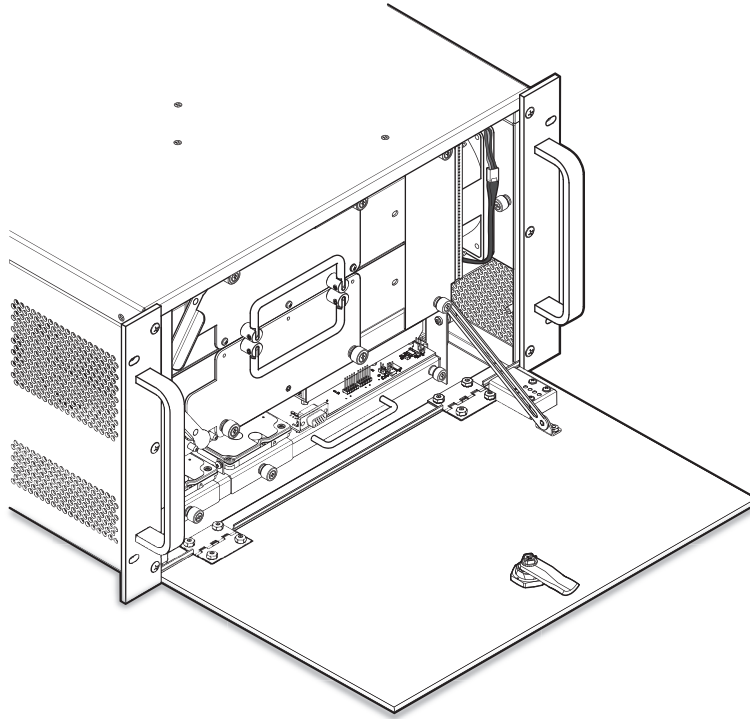

Figure 93. Front Panel Door Open
2. Pull the front door all the way down (see figure 93).